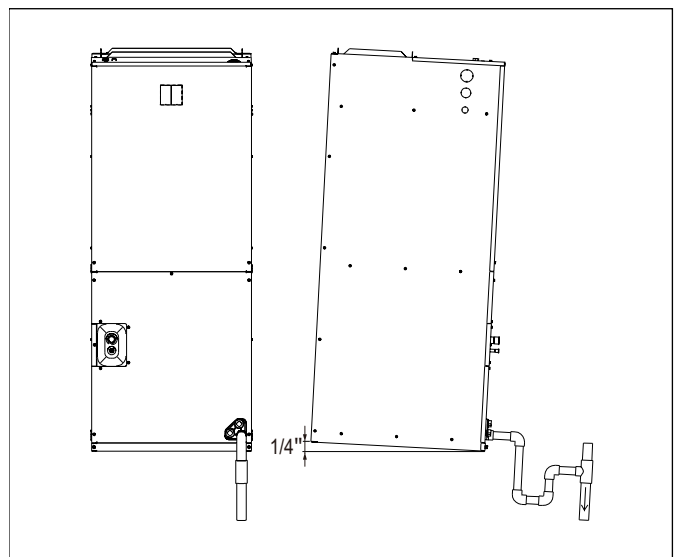
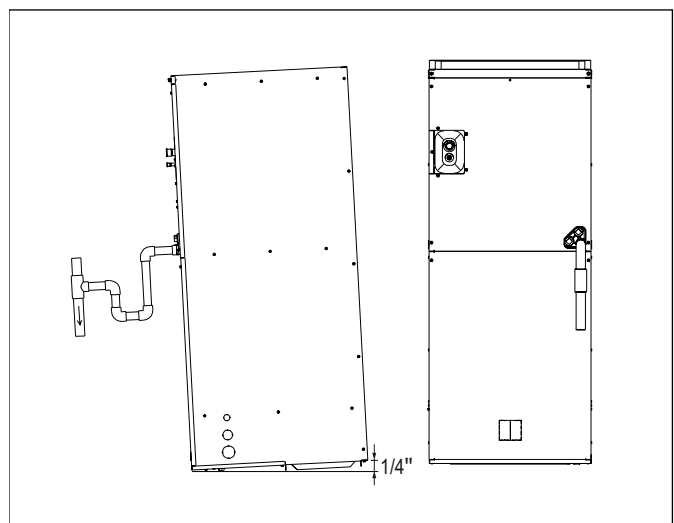
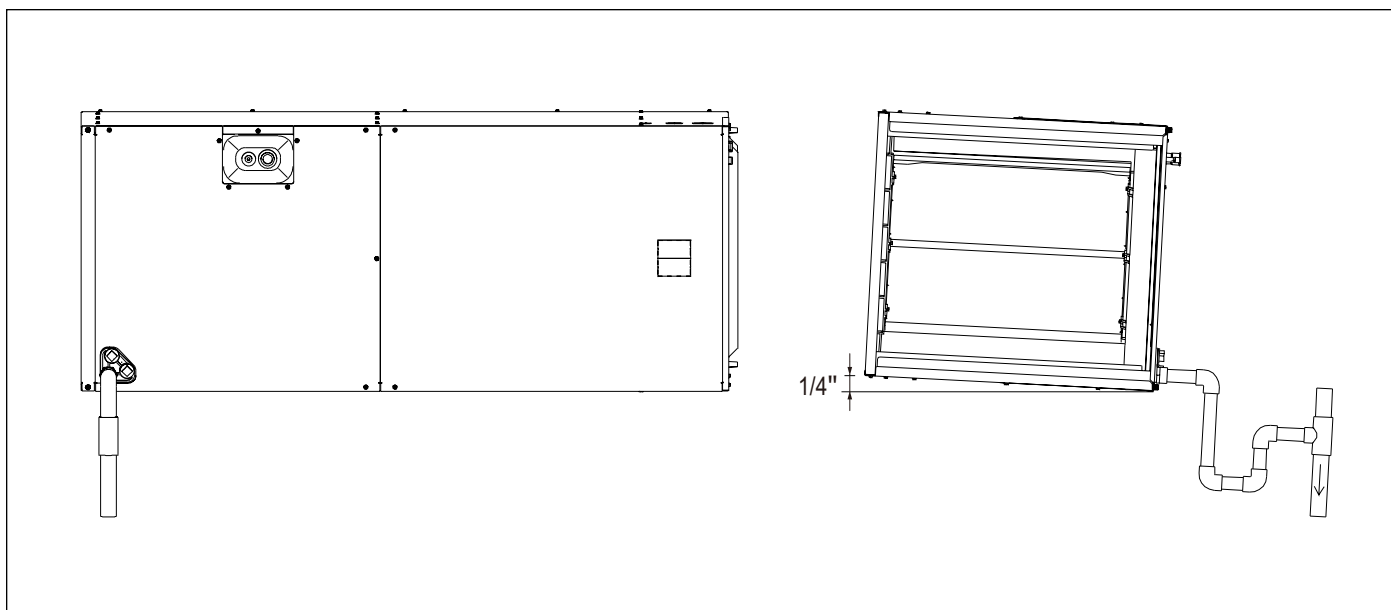
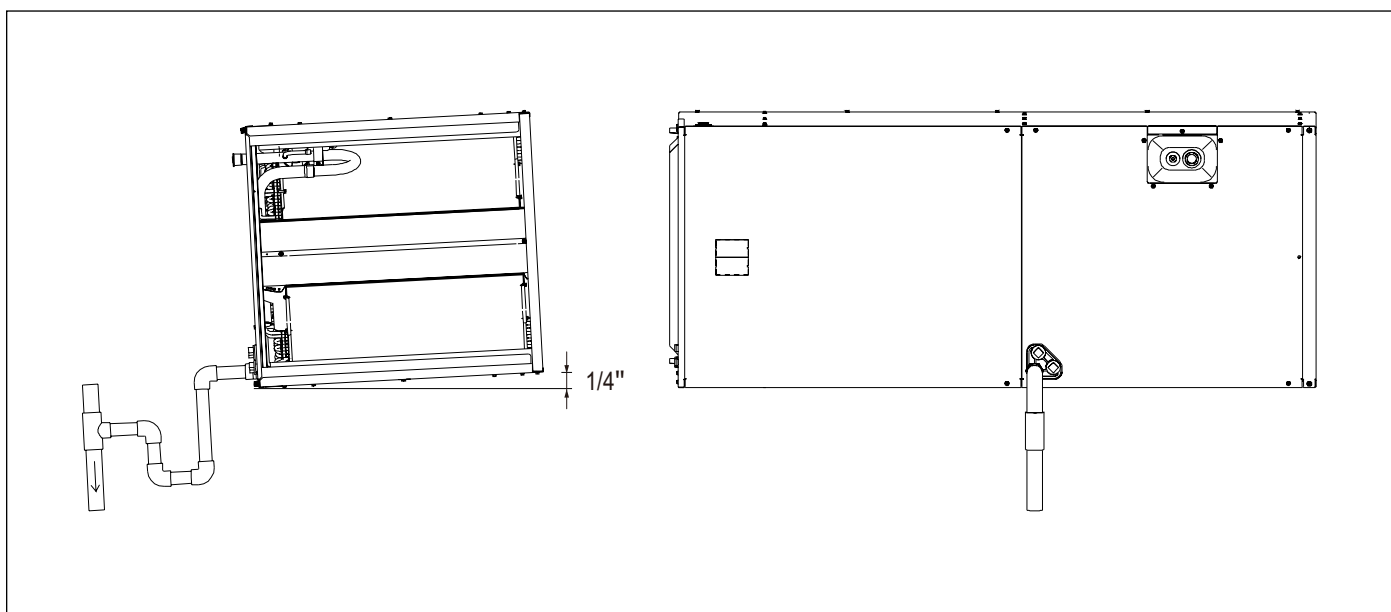

Figure 19 Vertical upflow view
Figure 20 Vertical downflow view
Figure 21 Horizontal right view
Figure 22 Horizontal left view
- Make sure unit is leveled or pitched slightly toward primary drain connection so that water will drain completely from the pan. Up to an additional 1/4" rise over the width or depth of the unit is allowed to create additional sloping towards the drain. Unit must be positioned between level and 1/4" rise, sloping toward the drain connections. See Figure 19, Figure 20, Figure 21 & Figure 22.